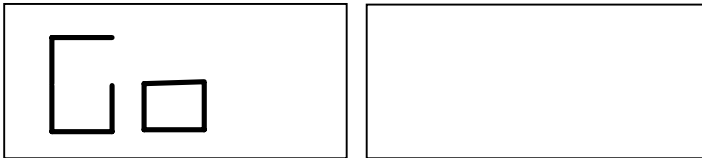

Fig. F5.5 "Run the launch" message
- Press [P4] . The message seen in figure F5.5 will be displayed;